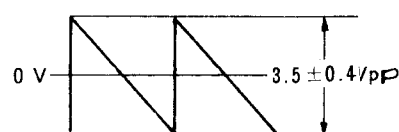

Fig. 6-2
- When LFO selector switch (PSW22) is set at " \\_ ", sawtooth waves of  $100 \pm 2\text{Hz}$  should develop. When LFO SPEED is set at S,  $0.3 \pm 0.5\text{Hz}$  should be read. At this time the waveform should appear as in Fig. 6-2.